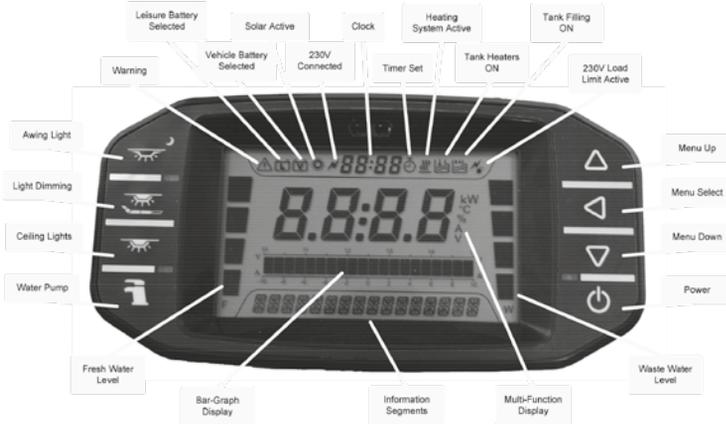

Fig 2
- The EC620 Control Panel (CP) - a remotely located user control panel used to turn circuits on and off and to display battery, water tank and other system information. This panel uses simple straightforward controls and reliable data communication to the PSU. (Fig 2)